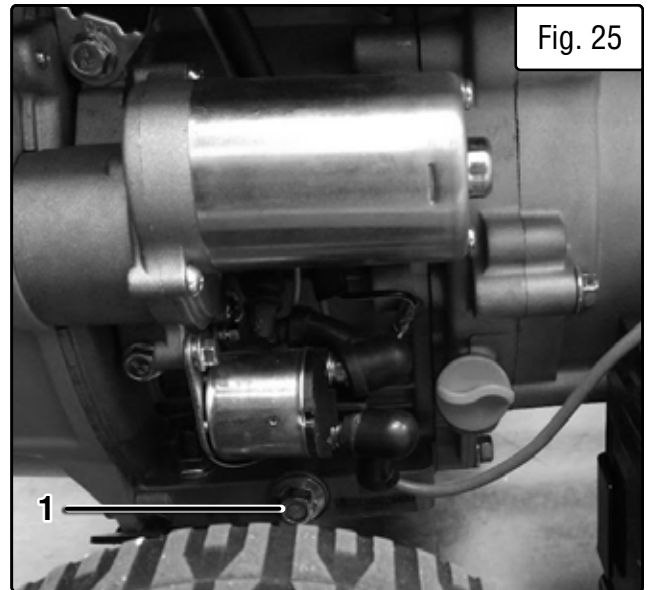

Fig. 25
2. Prepare an approved oil-storage container and place it below the oil drainage bolt (Fig. 25 - 1) to catch oil as it drains.